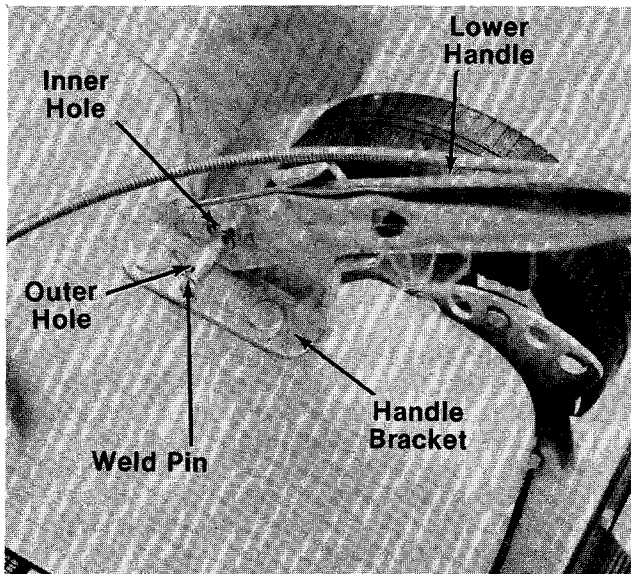

FIGURE 2.
- A (2) Hand Knobs
- B (2) Curved Head Carriage Bolts
- C (2) Hairpin Cotters
- D (1) Hex Bolt $\frac{1}{4}$ -20 x 1.50" Long
- E (1) Hex Lock Nut $\frac{1}{4}$ -20 Thread
- F (2) Cable Ties
3. Fasten hole in lower handle over weld pins in handle mount brackets on deck. Secure with hairpin cotters (C) in inner hole on weld pin.
- ← See figure 2.